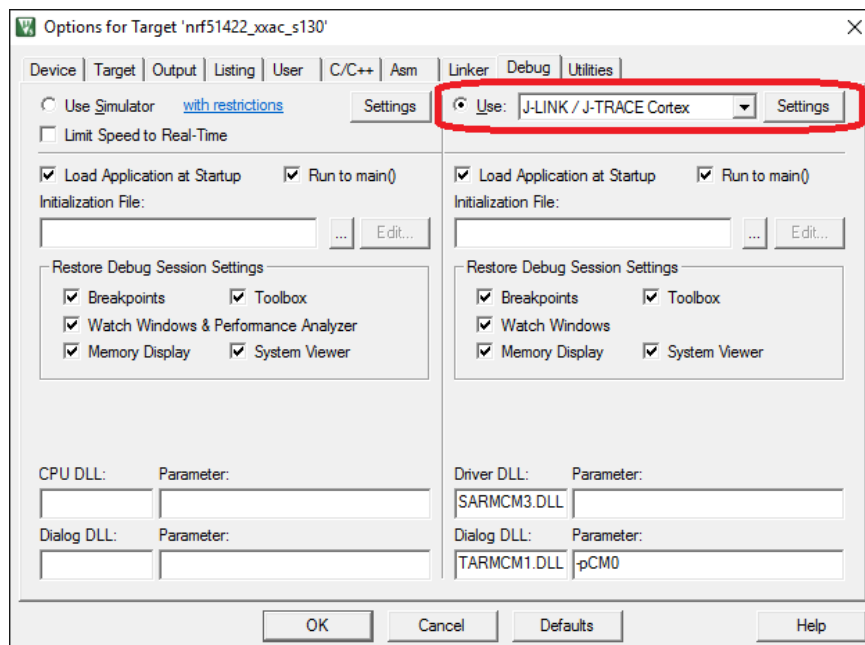

Figure 6 – Keil Flash Tools Debug Window
- Go to the 'C/C++' tab, and in the field marked 'Define' change "BOARD\_PCA10028" to "BOARD\_CUSTOM" as shown in Figure 6.